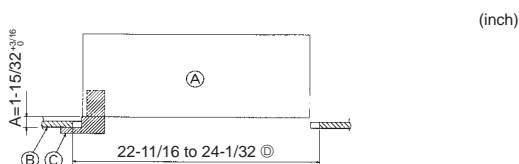

Fig. 6-2
②	Screw with washer	4	M5 × 0.8 × 28 (mm)
③	Gauge	1
④	Junction wire for signal receiver	1	Included when equipped with the signal receiver.
⑤	Junction wire for i-See sensor	1	Included when equipped with the i-See sensor.
⑥	Fastener	2	Included when equipped with the signal receiver.
⑦	Fastener	2	Included when equipped with the i-See sensor.
⑧	Wireless remote controller	1	Included when equipped with the wireless remote controller.
⑨	Remote controller holder	1	Included when equipped with the wireless remote controller.
⑩	LR6 AA batteries	2	Included when equipped with the wireless remote controller.
⑪	3.5 × 16 mm tapping screws	2	Included when equipped with the wireless remote controller.
6.2. Preparing to attach the grille (Fig. 6-2)